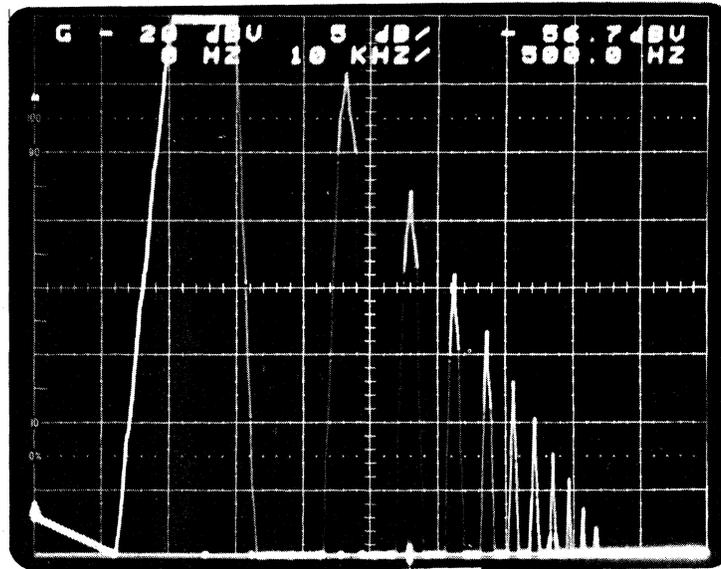

Fig. 3-3 Example of Calibrated CRT Display using the Internal Test Signal
- g. Jog the SPECTRUM GAIN up once so the top of the display saturates. Adjust the VERT GAIN potentiometer so the top of display falls on the uppermost horizontal line. A properly calibrated display is shown in Fig. 3-3.